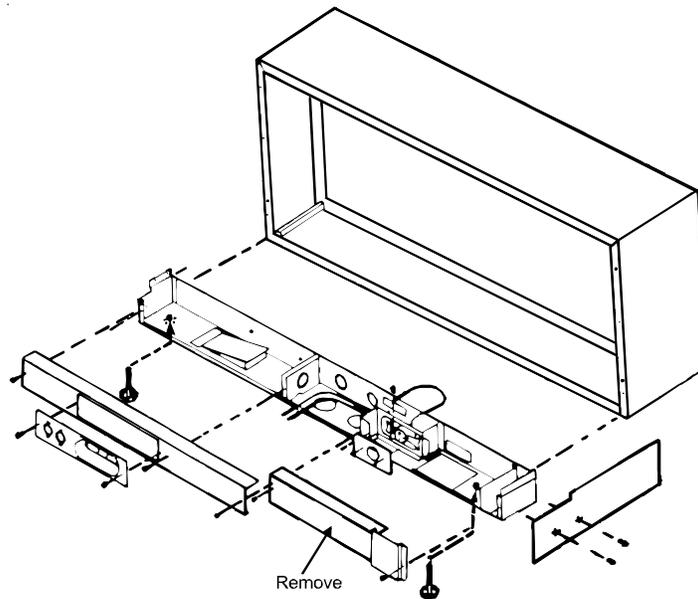

Figure 1
1. Remove the right hand subbase cover from the existing subbase by removing the two screws holding the cover in place. Save these screws for later use. (Figure 1)